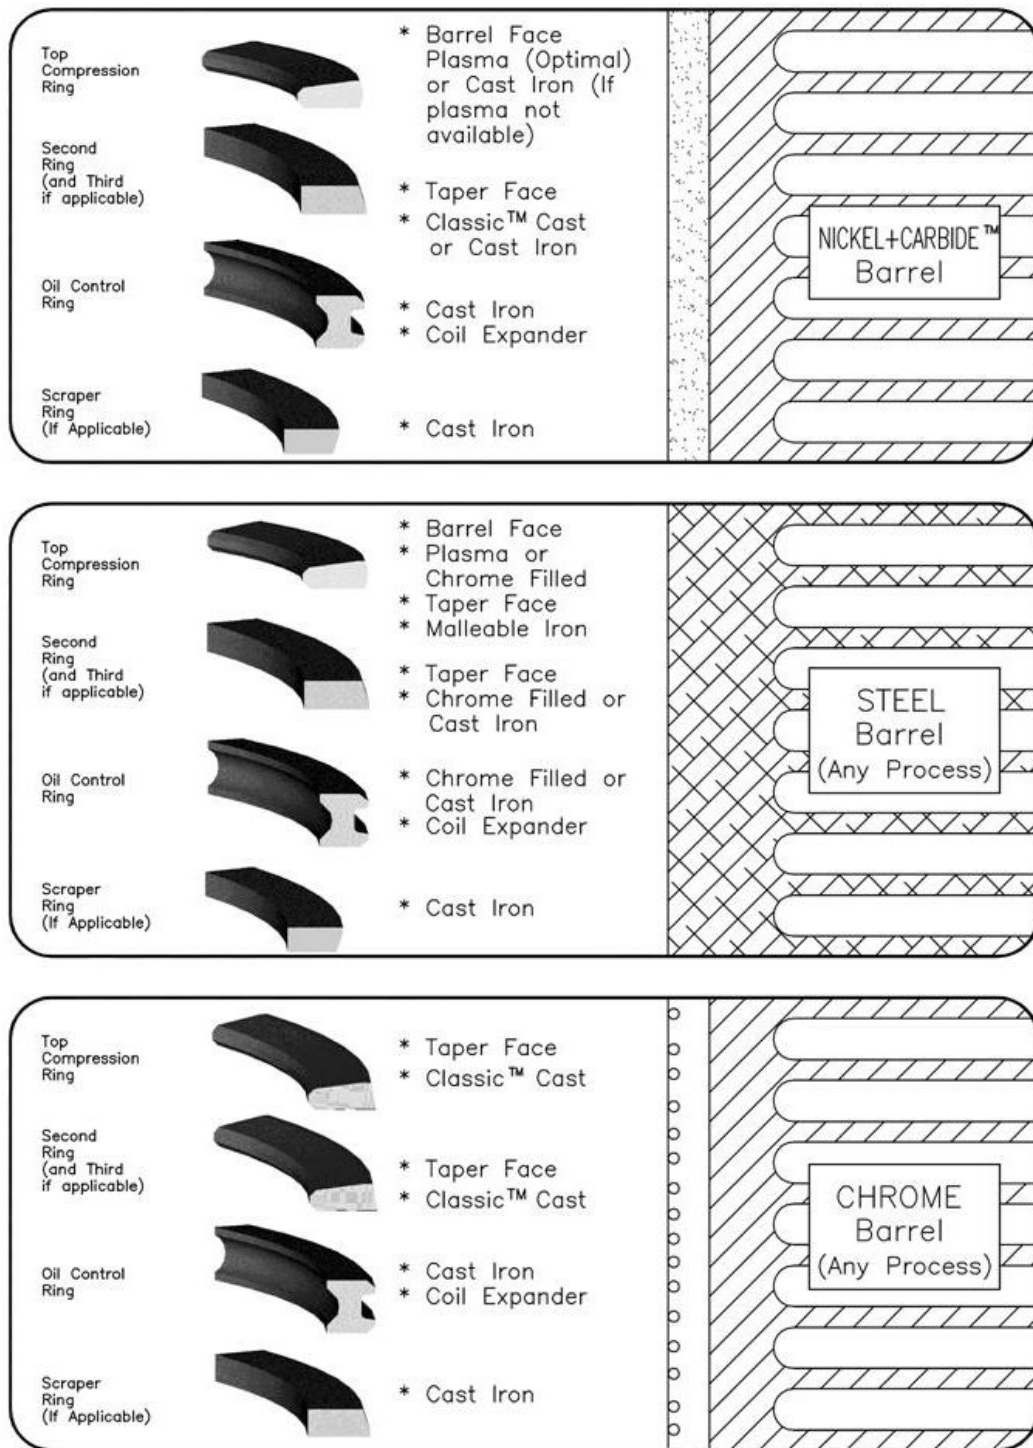

Figure 1. Recommended Piston Ring/ Bore Combinations
1. Determine the composition of the cylinder bore BEFORE selecting the ring set. The cylinder bore and the ring materials must be compatible (see Figure 1).